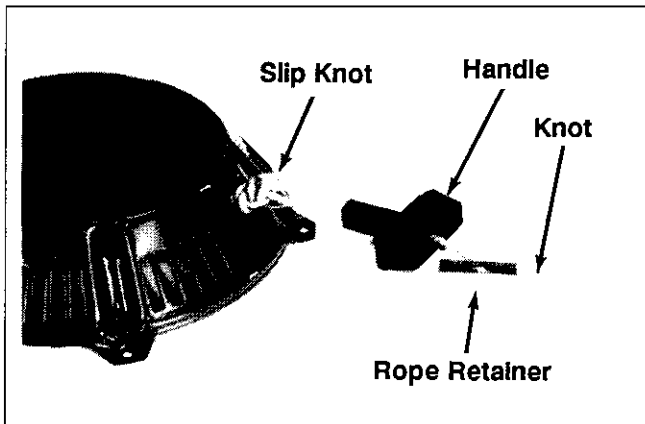

Figure 7-2. Removing Starter Handle.
2. Pull the rope out approximately 12" and tie a temporary (slip) knot in it to keep it from retracting into the starter. See Figure 7-2.